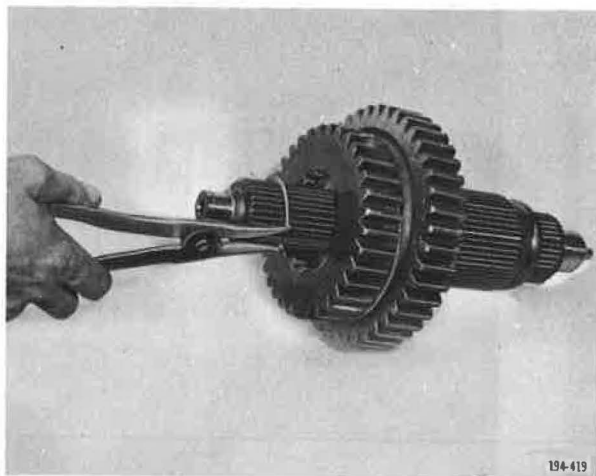

Figure 5-744. Removing Snap Ring
3. Remove fourth speed gear retaining snap ring, using snap ring pliers J-29045 or equivalent. See **Figure 5-744**.